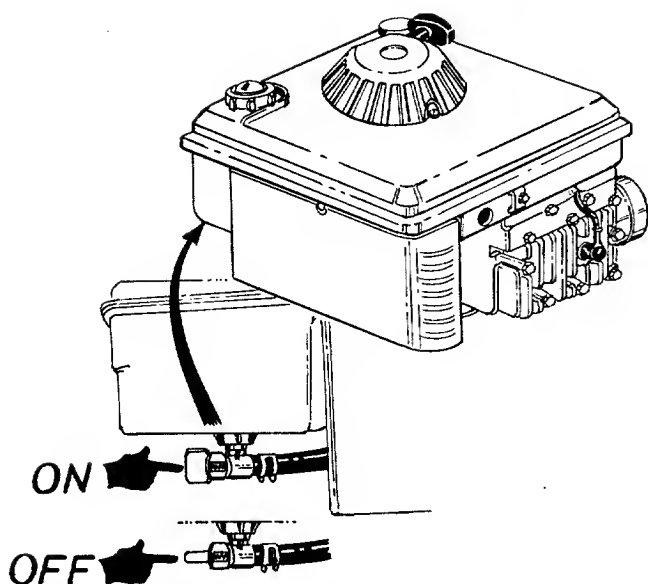

FIGURE 20.
4. Open fuel shut-off valve, located beneath the fuel tank. See figure 20.